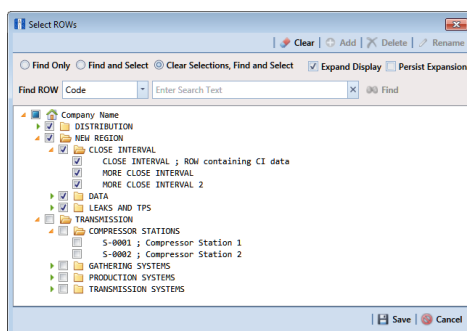

Figure 13-6. Select ROWs
- 2 Select one or more pipeline segments in the *Select ROWs* window (Figure 13-6). Click  **Save** to close the window.